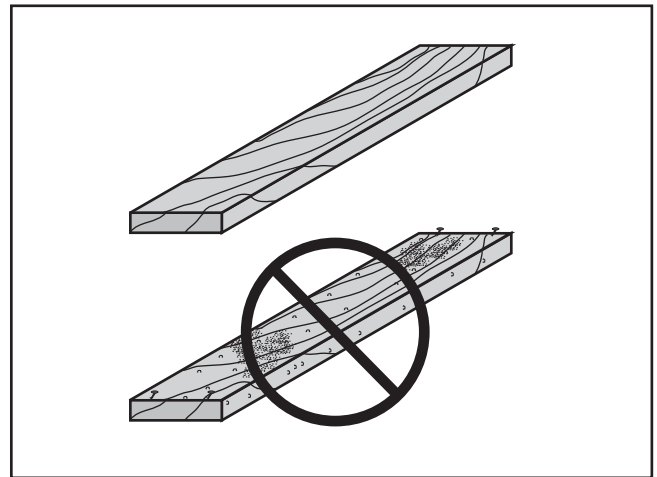

Figure 46. Choosing wood without foreign objects embedded.
- **Foreign Objects (Figure 46):** Nails, staples, dirt, rocks and other foreign objects are often embedded in wood. While cutting, these objects can become dislodged and hit the operator or break the blade, which might then fly apart. Always visually inspect your workpiece for these items. If they can't be removed, DO NOT cut the workpiece.